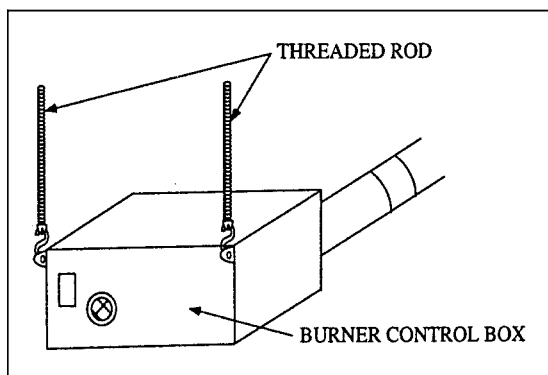

Figure 1-4
3. If windy conditions exist in the space around the heater, it may be necessary to mount the heater rigidly to prevent swaying. It is recommended that threaded rod be used for two hanging points at the burner control box (Figure 1-4). Chains should be used at the remaining points to allow for heater expansion.